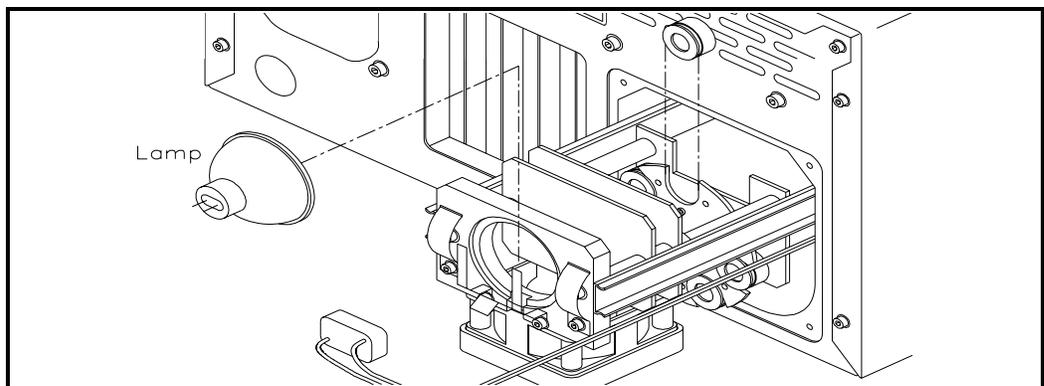

Figure 9 Fitting the Lamp and Filters
1. Insert the lamp into the assembly and plug the connector into its back (see Figure 9).